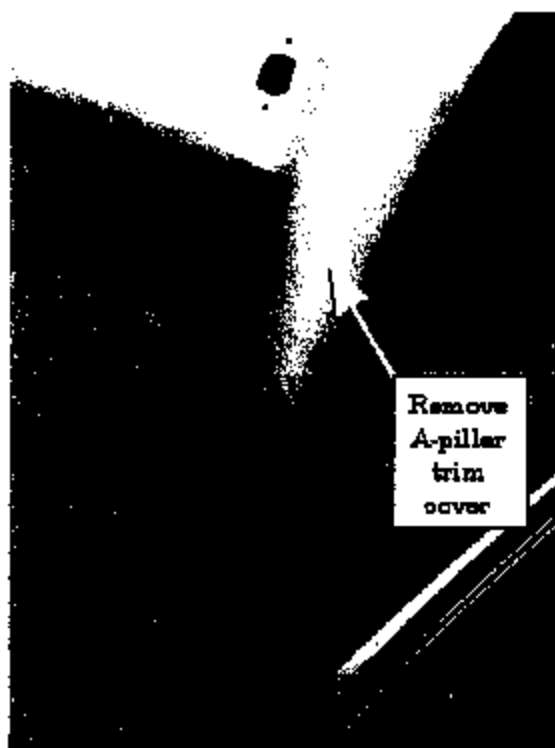

Figure 6: Remove A - Pillar trim cover
3. Pull both driver and passenger front door finisher away from the A-Pillar. (Figure 6).
4. Remove both driver and passenger A-Pillar trim cover and inner rail. (Figure 6 & 7)